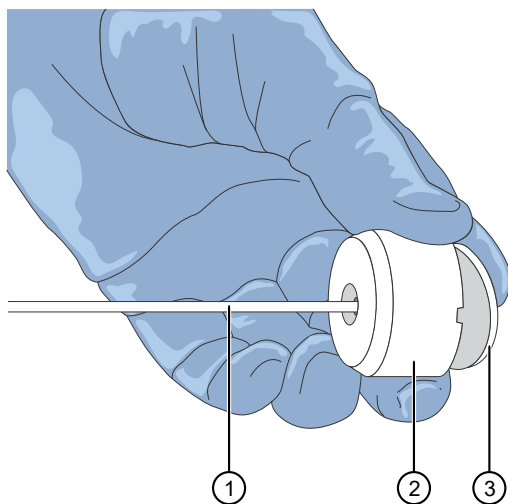

Figure 44 Components of the reagent buffer supply line and filter.
2. Carefully remove the filter from the end of the filter body (see Figure 44).